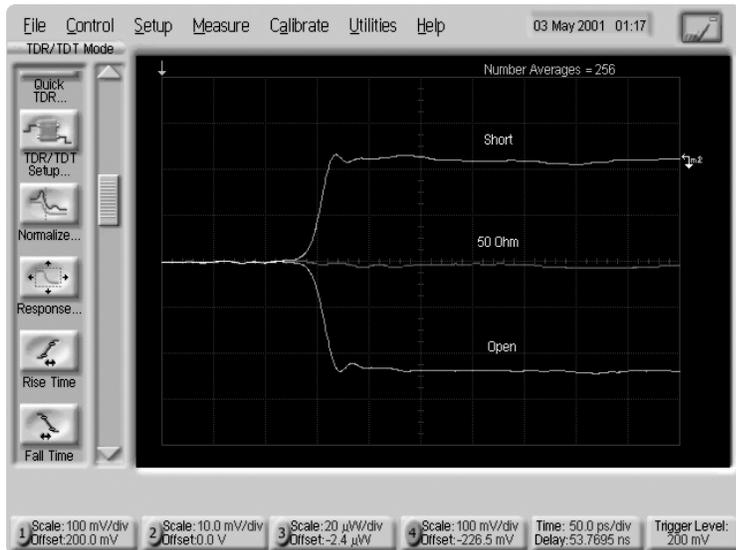

Figure 8. Multiple exposure showing short circuit, 50 Ω, and open circuit terminations.
7. Now attach a 50 Ω termination to the TDR reference port and watch what happens to the waveform. Next remove the termination and attach a short circuit termination to the reference port. Figure 8, illustrates how all three of the waveforms would appear if they were displayed simultaneously. This was constructed by saving each of the 50 Ω and open waveforms independently onto the display. The